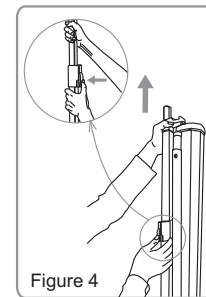

Figure 4
2. Press the Magic button, and raise the adjustable uphold bar to release housing from the plastic hook. (Figure 4)